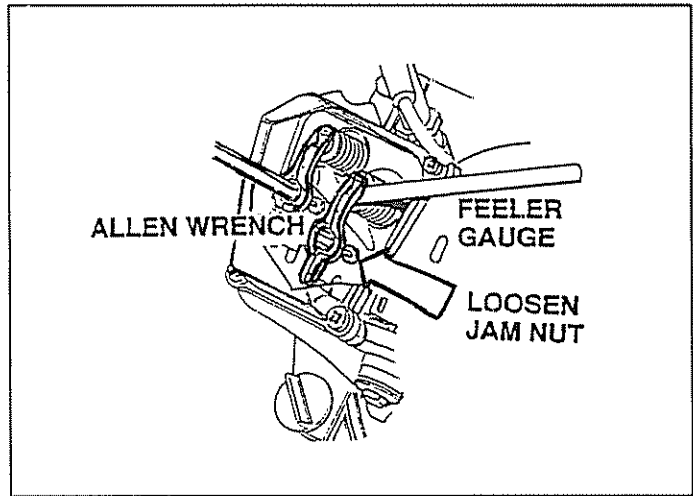

FIG. 27
- Loosen the rocker arm jam nut. Use an allen wrench to turn the pivot ball stud while checking clearance between the rocker arm and the valve stem with a feeler gauge (Fig. 27).